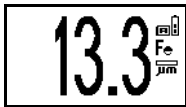

Figure 9. Typical reading
3. Reading is displayed on screen (Figure 9).